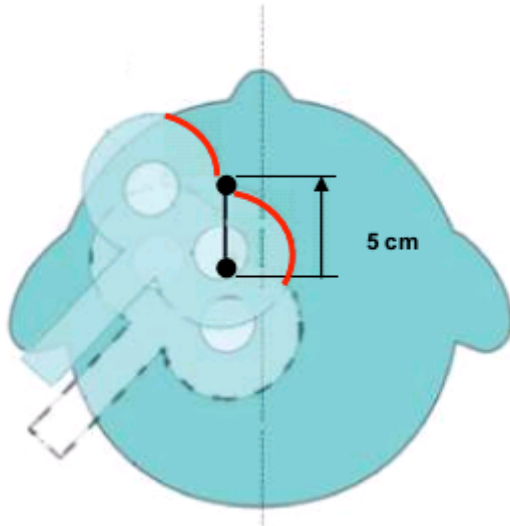

Fig. 39. Correct coil positioning for treatment.
31. Loosen the screw on holder arm and move the anterior rim of the coil to marked point (you have found it at step 30). (Fig. 39). Keep the coil orientation.